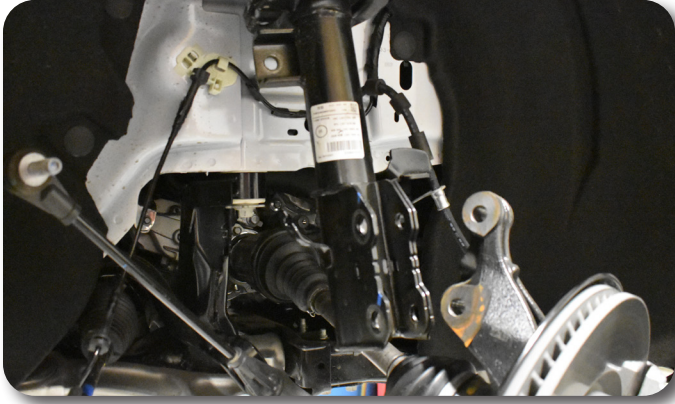

Figure 7A
11. Once your ABS line, brake line and knuckle are disconnected from the bottom of the strut support the weight of the strut while you remove the 3 upper strut mounting bolts from under the hood. Retain hardware Figure 7A/7B. DO NOT remove the center strut rod nut.